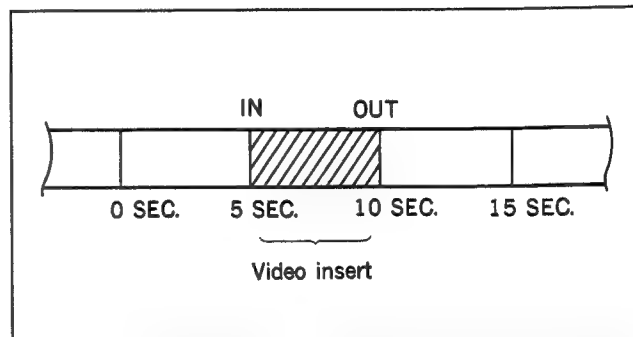

Fig. 6-9-4 Video insert for RV701 adjustment confirmation
12. Press the PLAY button from the 0 second point, and press the PLAY and EDIT buttons simultaneously to enter the video insert mode at 5 seconds point without supplying video signal. Press the CUT OUT button to stop the insert mode at 10 seconds point. Put the unit into REV search mode, and rewind the tape to the 0 second point. (See Fig. 6-9-4.)
13. Perform the step 12 operation 5 times. (Repeat the video insert operation at the same position of the tape.) (See Fig. 6-9-4.)
14. Rewind the tape to 0 second position, and press the VIDEO INSERT button (LED turns OFF), and press the PLAY button. (See Fig. 6-9-4.)